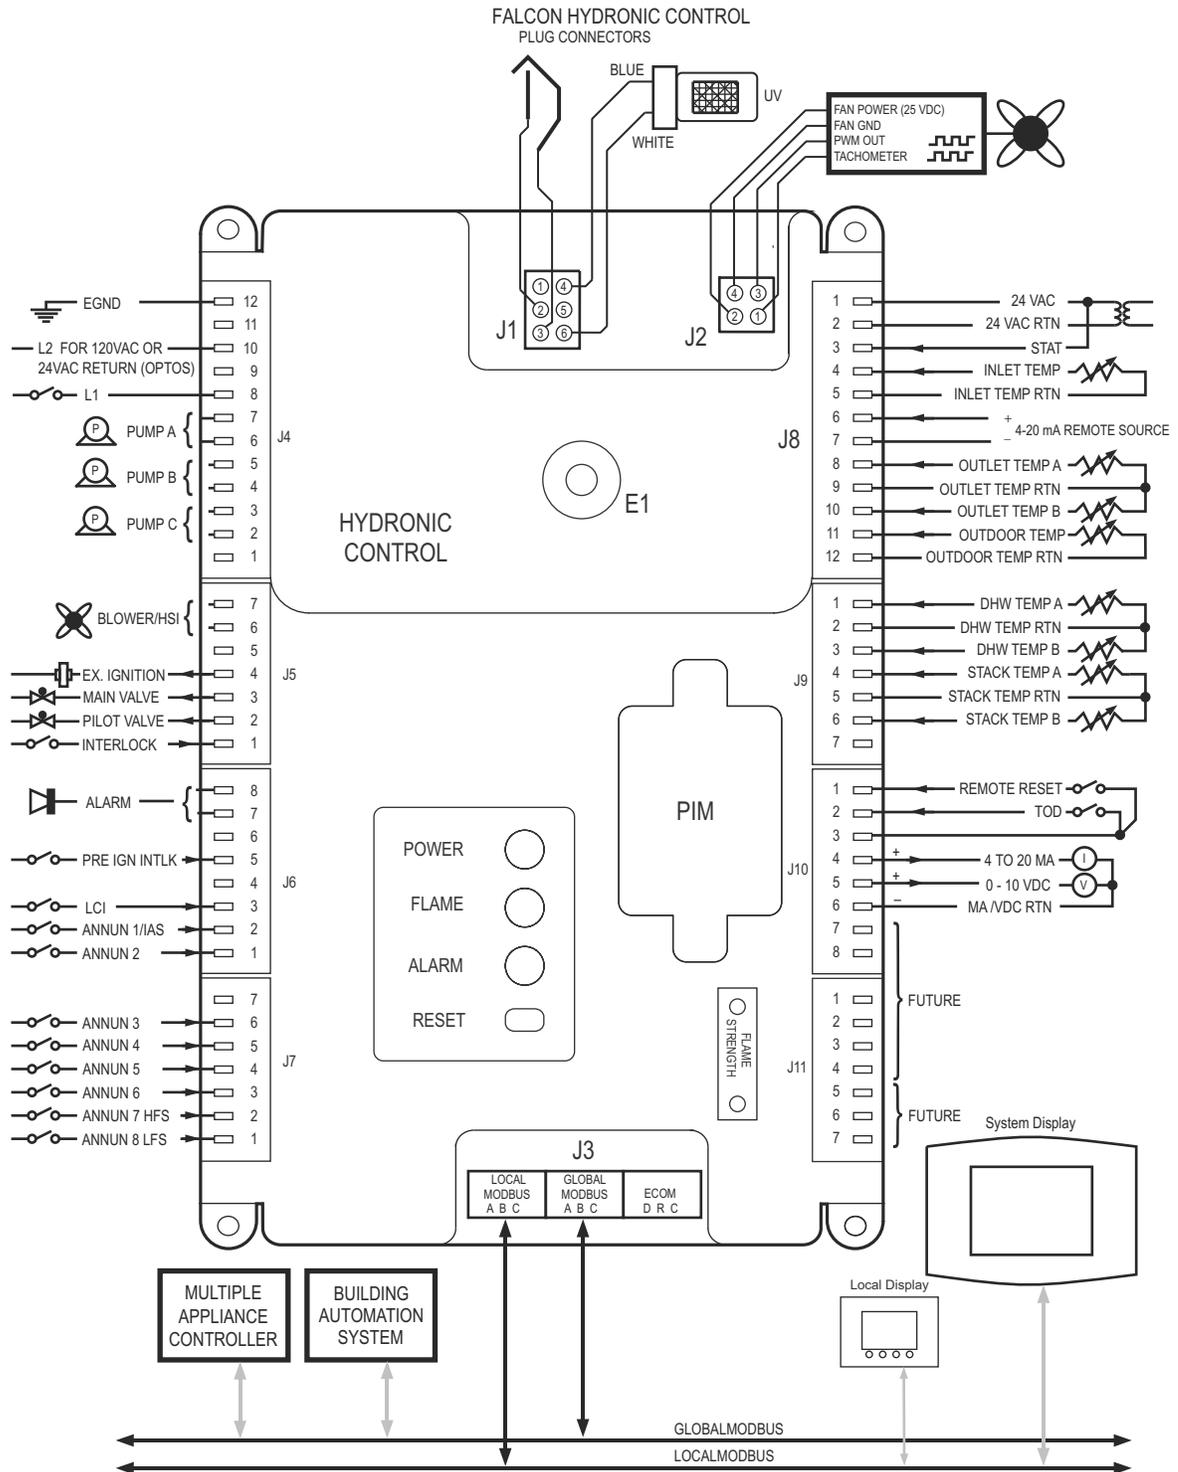

Fig. 3. Falcon device pin out (hydronic)
2. Refer to the wiring diagram provided as part of the appliance or refer to Fig. 3.